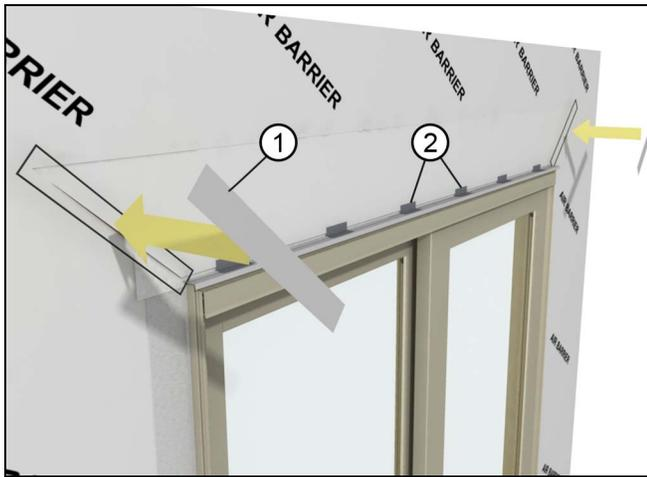

Figure 24
4. Fold the head jamb air barrier down over the head jamb flashing. Apply seam seal tape over the diagonal cut in the air barrier. Make sure the tape laps onto the unit or casing. Cut 3" (76) strips of tape and install every 12" (305) along the head jamb. Tape and seal any seams and fasteners directly above the unit. See Figure 24.